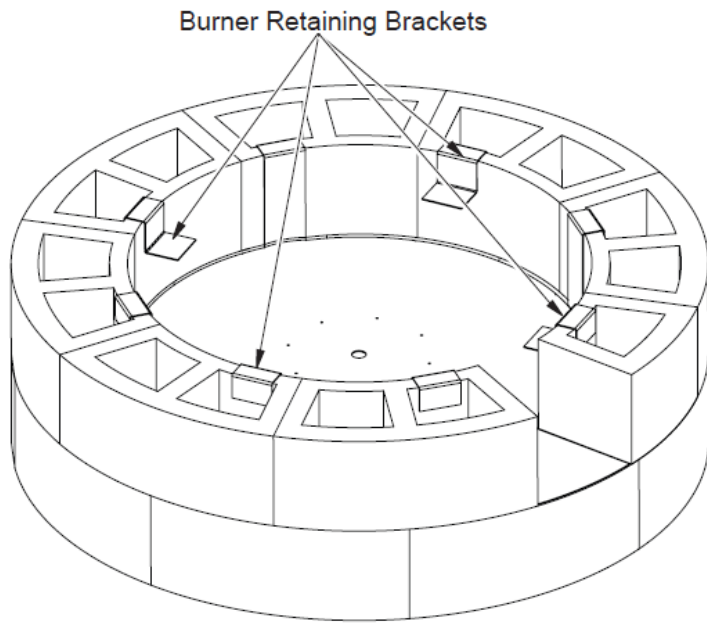

Figure 13 - Burner Retaining Brackets
8. Place 4 burner retaining brackets (shorter of the 2 types of brackets included with the MFRB Series burner system) on the top layer of blocks in the pattern shown in Figure 13.